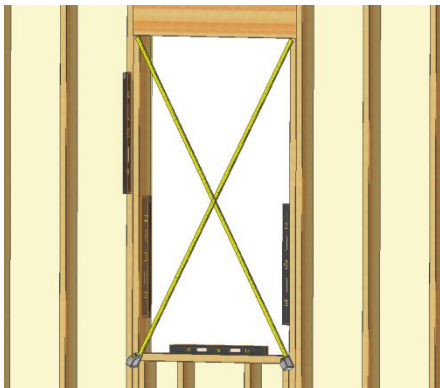

Fig. 1
- B. Verify the rough opening is flat, plumb, level, and square. (Fig. 1)
- C. Take diagonal measurements to check for square. (Fig. 1)